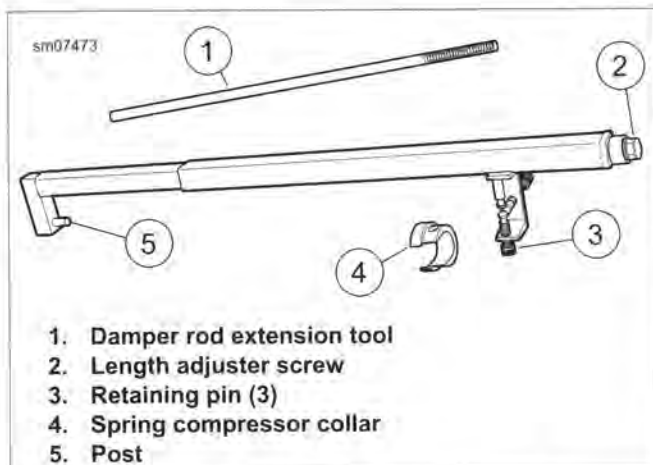

Figure 2-95. Fork Spring Compressing Tool
6. See Figure 2-95. Obtain FORK SPRING COMPRESSING TOOL (Part No. HD-45966). Install:
- Clamp tool (1) in vise in a vertical position with length adjuster screw (2) topside.
- Place hole at bottom of fork slider over post (5) at bottom end of tool.
- With the smaller OD topside, place FORK SPRING COMPRESSING TOOL COLLAR (Part No. HD-45966-2) (4) over nut, spring seat and flat washer of fork assembly.